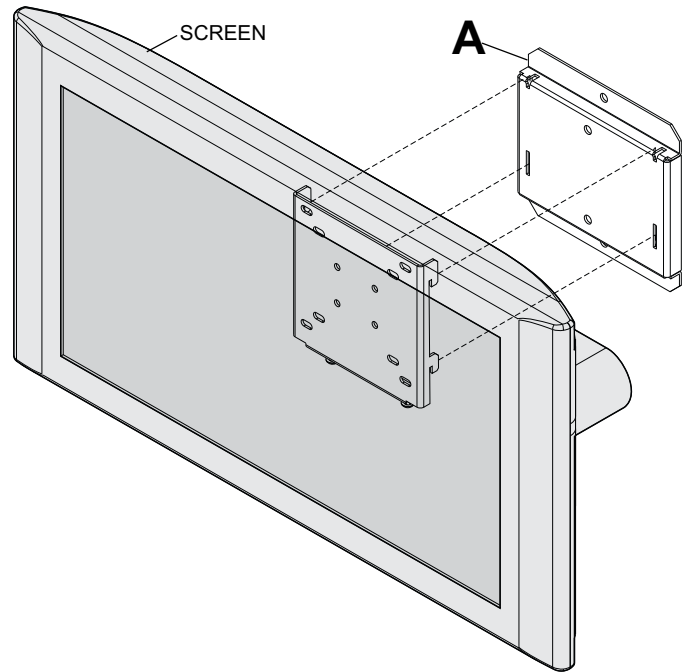

fig. 4.1
- 4** Hook screen onto wall plate (A) figure 4.1. Tighten M5 x 12 mm screws (D), shown in figure 4.2 and detail 1.